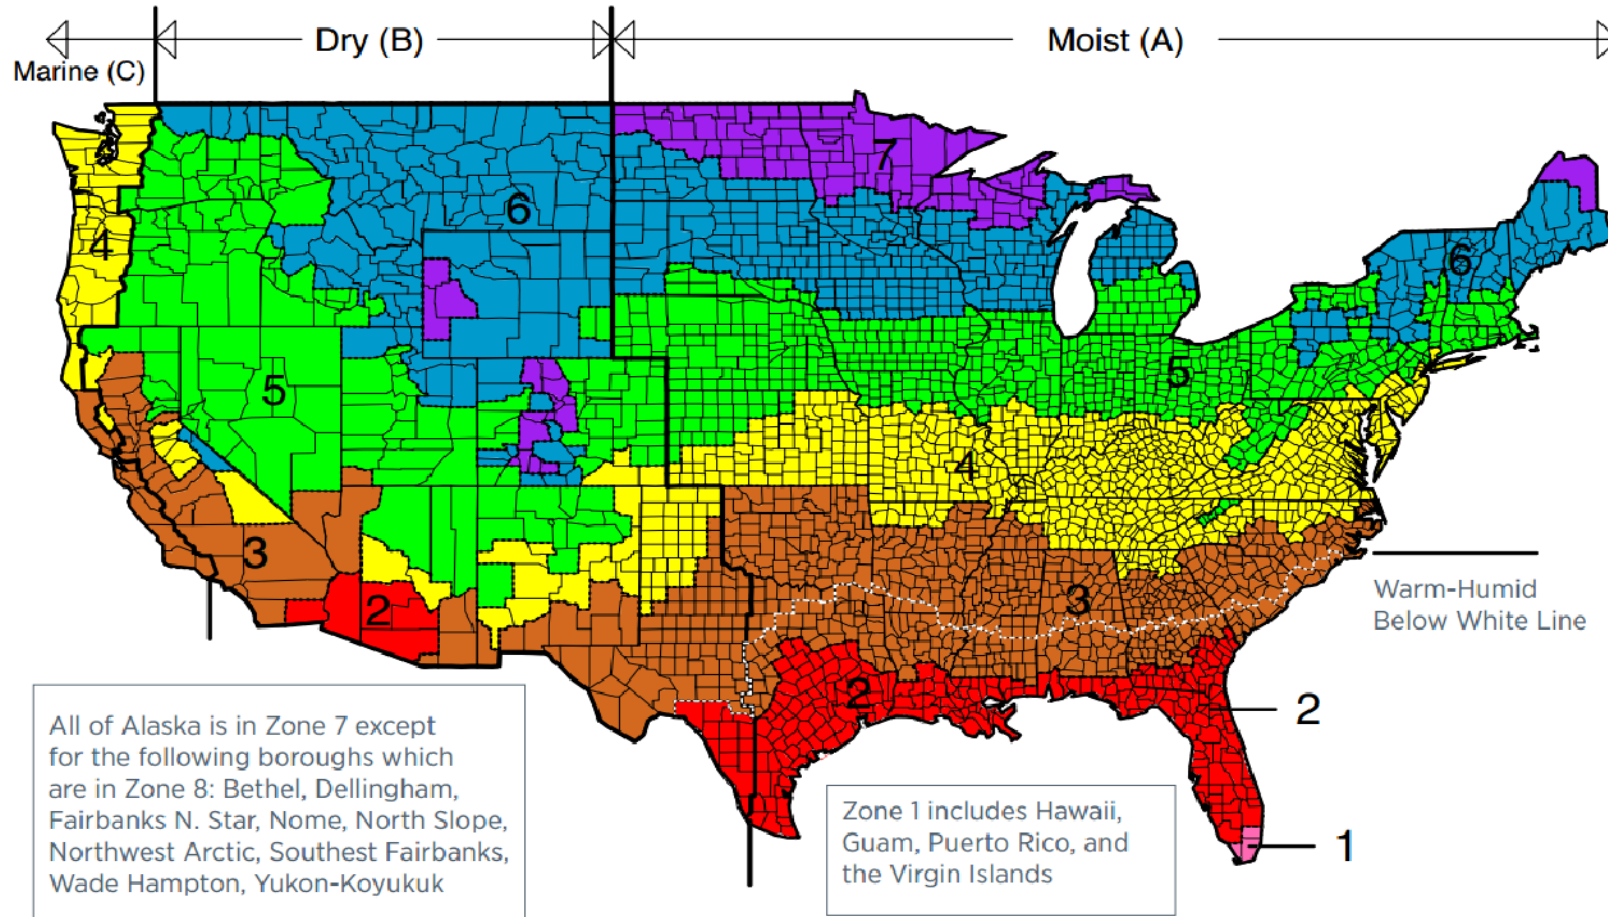

Figure 2. U.S. Climate Zone Map
- Determine Climate Zone (Figure 2)
| Climate Zone (Fig. 2) | Maximum Heating Degree Days (65F basis) | Interior Vapor Retarder (VR) Class | | | No VR ^f |